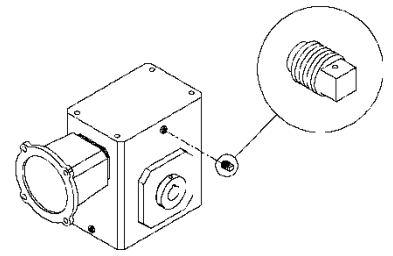

Figure 11 –
- Make sure vent plug (*Figure 11*) is clean and the orifice is open.